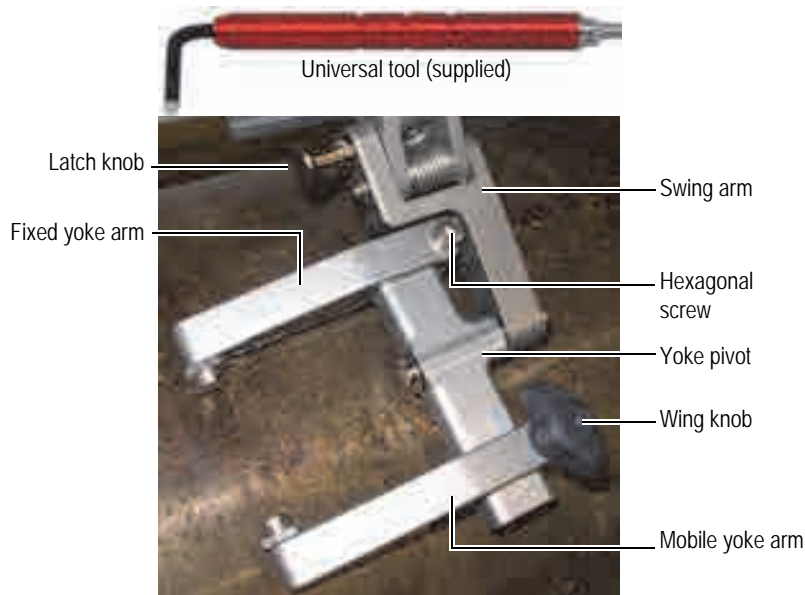

Figure 2-12 Changing the yoke arms
Refer to Figure 2-12 on page 33 for the identification of the parts.
2. Use the supplied universal tool to loosen the hexagonal screw (see Figure 2-12 on page 33).